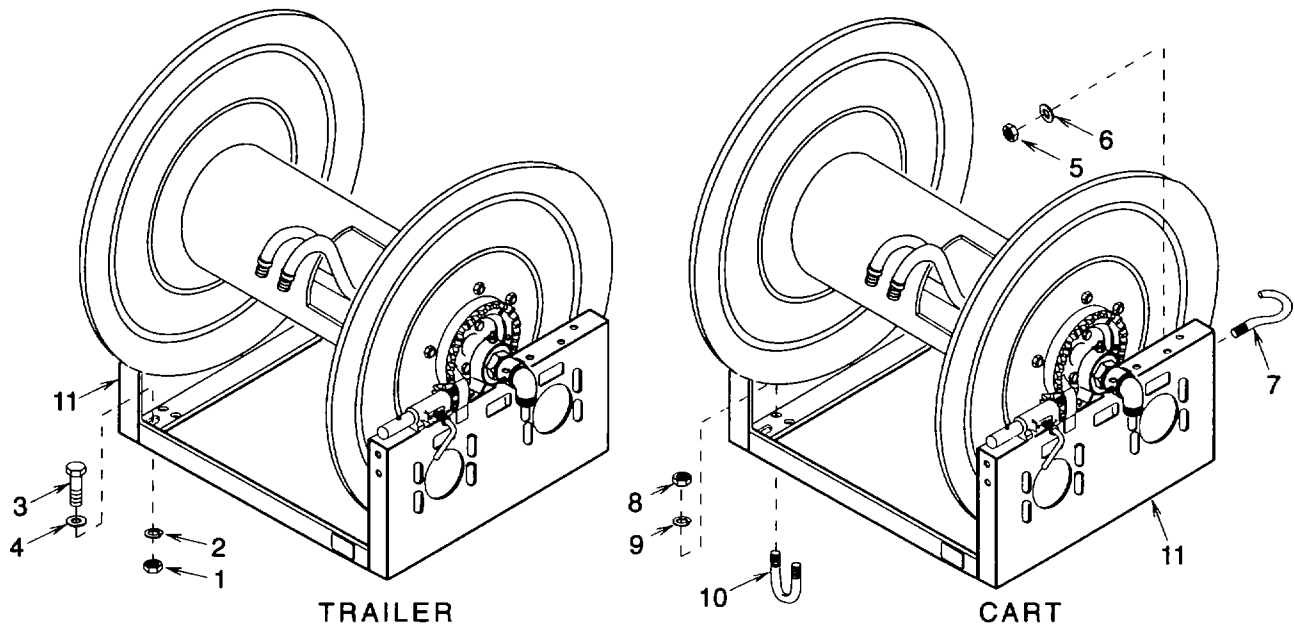
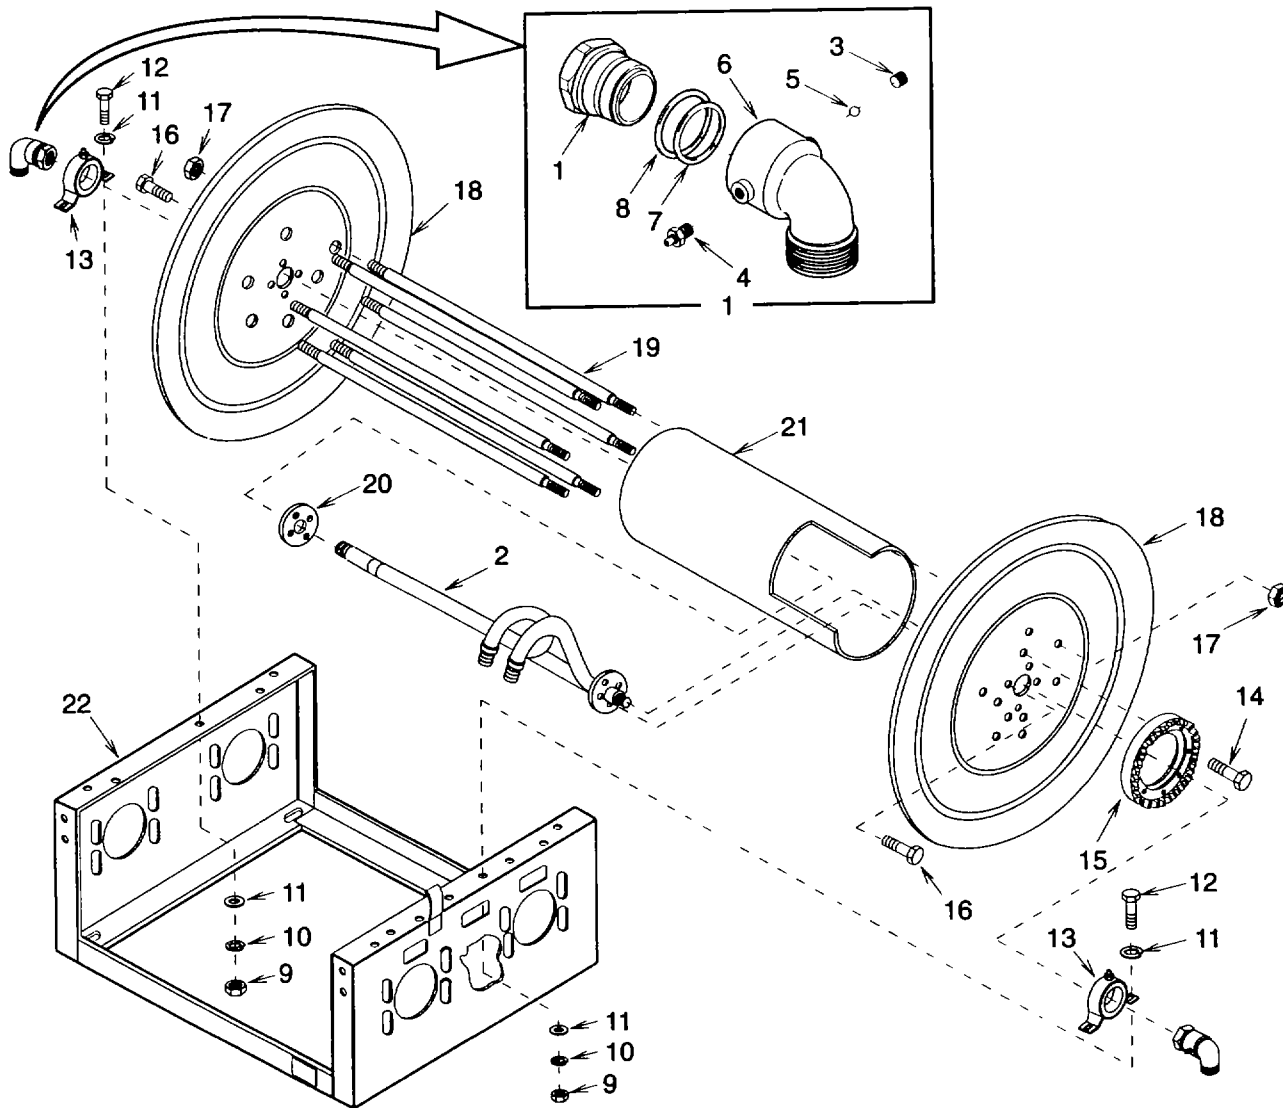

Figure 4-15. Hose Reel Assembly
Figure 4-16. Drum Assembly
a. Removal (See figure 4-15.)
- (1) Remove four nuts (1), lock washers (2), screws (3), and flat washers (4) for trailer mounted extinguisher assembly. Discard lock washers.
- (2) Remove two nuts (5), flat washers (6), and J-bolts (7) for auxiliary mobile hose reel cart.
- (3) Remove eight nuts (8), lock washers (9), and four U-bolts (10) for auxiliary mobile hose reel cart. Discard lock washers.
b. Disassembly (See figure 4-16)
- (1) Disconnect two union tailpieces (1) from distributor (2).
- (2) Remove setscrew (3), lubrication fitting (4), and 30 ball bearings (5).
- (3) Carefully separate elbow (6) and union tailpiece (1).
- (4) Remove preformed packing (7) and (8). Discard preformed packing.
- (5) Remove four nuts (9), lock washers (10), eight flat washers (11), and four screws (12). Using sand paper, carefully remove paint from distributor (2) and slip two bearings (13) off. Discard lock washers
- (6) Remove eight screws (14), and gear (15)
- (7) Remove eight screws (16), 12 lock nuts (17), two discs (18), six spacers (19), distributor (2) flange (20), and spool (21). Discard lock nuts
d. Assembly (See figure 4-16.)
- (1) Install flange (20) and four screws (16) onto disc (18)
- (2) Install six spacers (19) and nuts (17) onto disc (18).
- (3) Slide spool (21) over spacers (19). Notched end on spool to face away from disc (18)
- (4) Carefully install distributor (2) through spool (21) and into flange (20).
- (5) Install second disc (18) and six nuts (17) onto spacers (19).
- (6) Install four screws (16).
- (7) Install gear (15) and eight screws (14) onto disc (18).
- (8) Carefully slide bearings (13) onto distributor (2) ends. Place spool (21) assembly onto frame (22) and align bearing mounting holes.
- (9) Install four screws (12), eight flat washers (11), four new lock washers (10), and nuts (9)
- (10) Lubricate new preformed packing (7) and (8) with grease and install onto tailpiece (1).
- (11) Carefully slip tailpiece (1) into elbow (6).
- (12) Install lubrication fitting (4)
- (13) Install 30 ball bearings (5)
- (14) With setscrew (3) removed, lubricate with grease through lubrication fitting (4) until grease comes out open hole. Install setscrew.
- (15) Wrap antisieze tape around distributor (2) threaded ends and connect two tail pieces (1)
- e. Installation (See figure 4-15.)